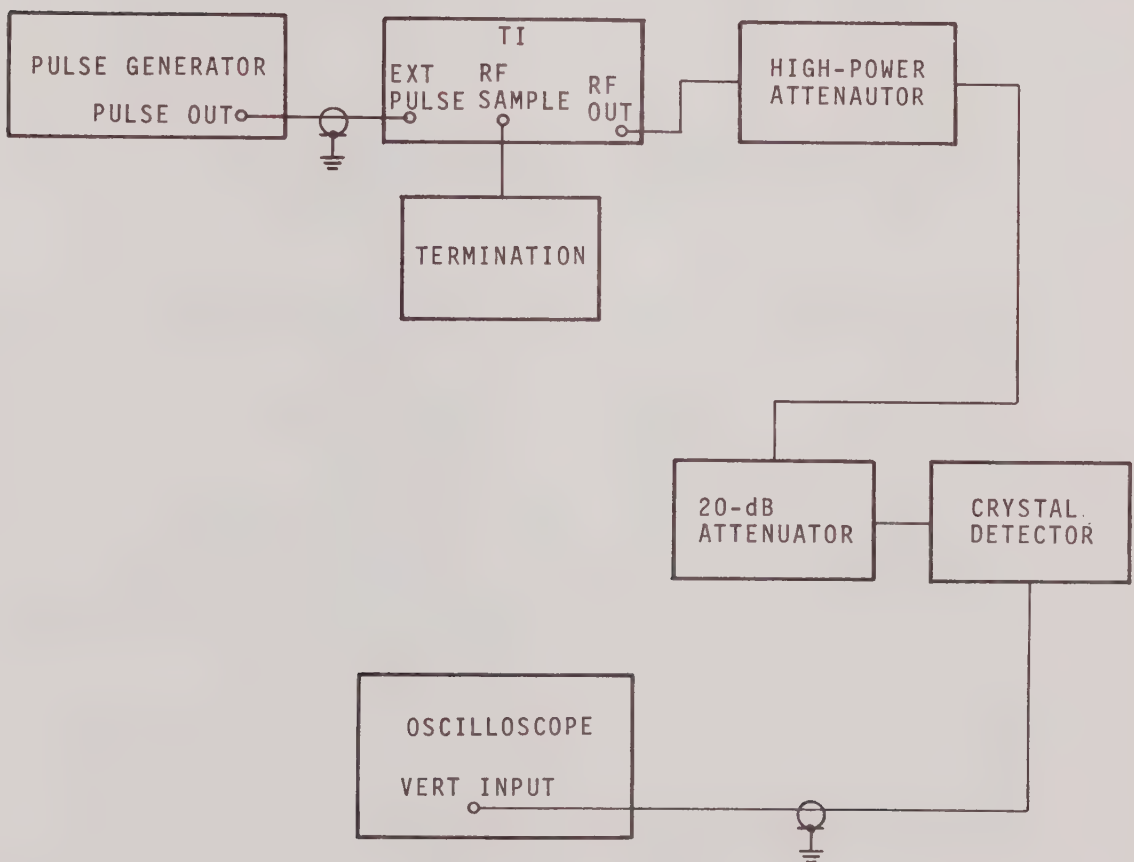

FIGURE 6-4. EXTERNAL MODULATION TEST CONFIGURATION
- a. Connect the applicable equipment as shown in Figure 6-4.